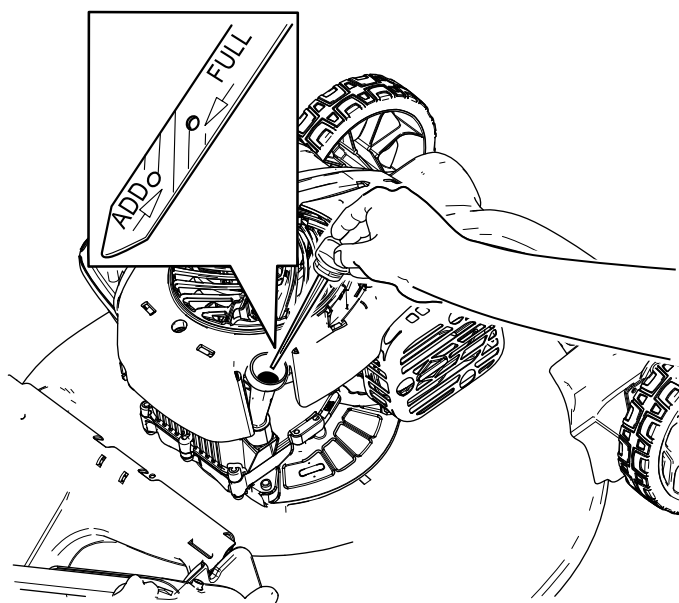

Figure 10
2. Remove the dipstick by rotating the cap counterclockwise and pulling it out (Figure 10).
5. Read the oil level on the dipstick (Figure 10).